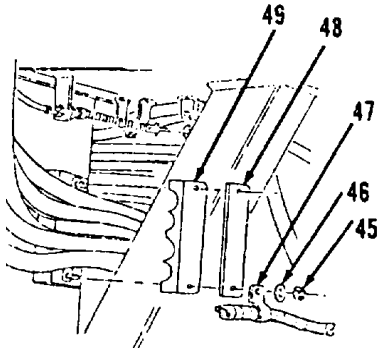
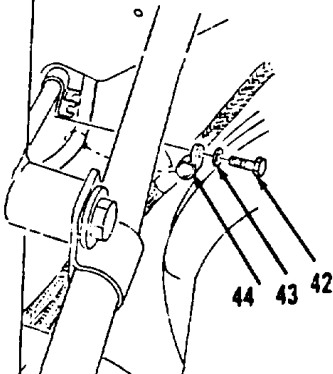

Figure 10-173.
Figure 10-172.
- 14. Install clamp (49), plate (48) and clip (47, Figure 10-173).
- 15. Install two washers (46) and nuts (45).
- 16. Install clip (44), washer (43) and bolt (42, Figure 10-172).